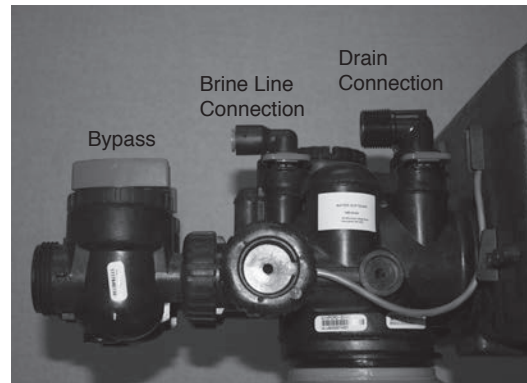

Figure 6a
- Some contractors make drain line connection using 5/8" polytube (See figure 6a, page 6) or a 3/4" female adapter. If soldering, joints near the drain must be done prior to connecting the drain line flow control fitting. Leave at least 6" between the drain line control fitting and solder joints when
- Connect the brine line found in the brine tank to the brine connection on the control valve. The control valve has a standard refill elbow to which a 3/8" flexible tube can be connected, see figure 6a, page 6. (An optional elbow can be ordered which accommodates a 1/2" flexible tube for a high regenerant draw rate situation). Both elbows use the same refill flow control and retainer. Make sure the floor is clean beneath the salt tank and that it is level and smooth.